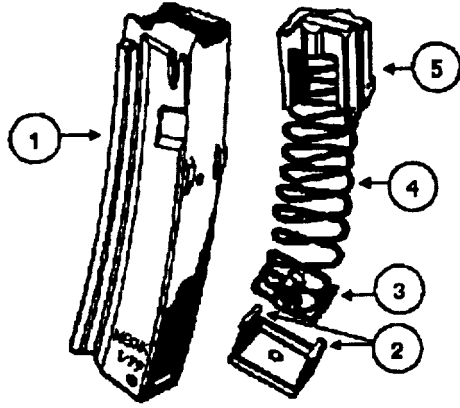

Figure 3-5. Disassemble Magazine Assembly
- a. Hold the magazine (1), Figure 3-5, in the left hand with the floor plate pointing up and the magazine lip resting on the table.
b. Install the magazine spring with the attached locking plate and follower (Figure 3-5 on page 3-17).